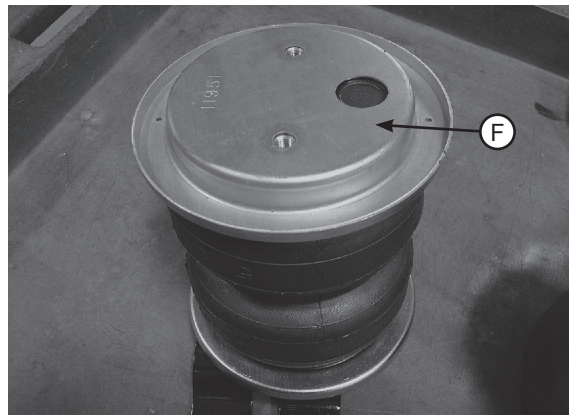

fig. D.8
3. Flip the assemblies over and set a roll plate (F) onto the bottom of the bellows (Fig. D.8).